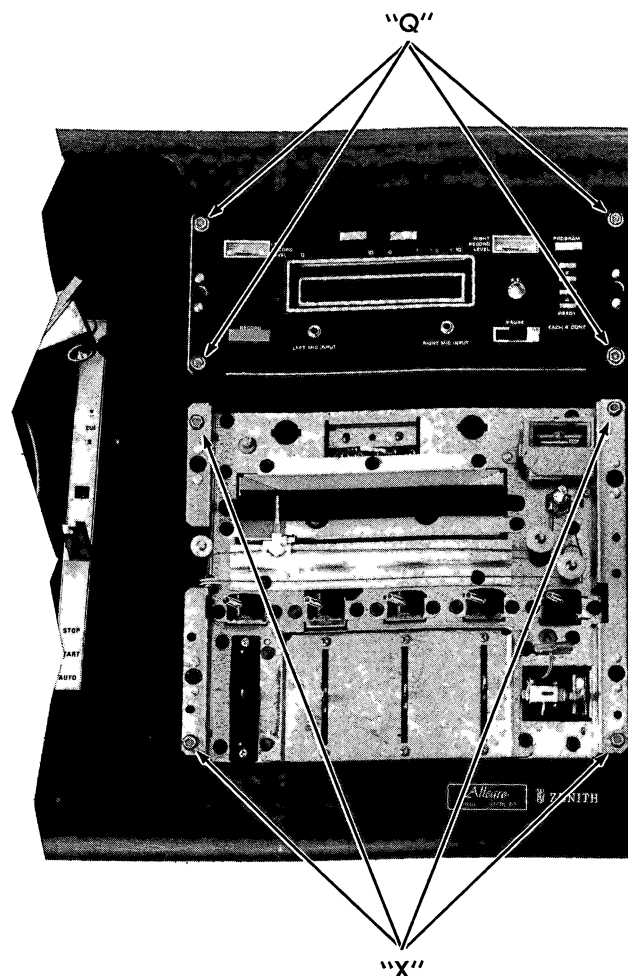

FIGURE 35 — MODELS J596W AND JR596W
6. Remove (4) screws holding tape unit to front panel ("Q" in Figure 35).
7. Remove four (4) screws ("X" in Figure 35), holding tuner chassis to front panel.